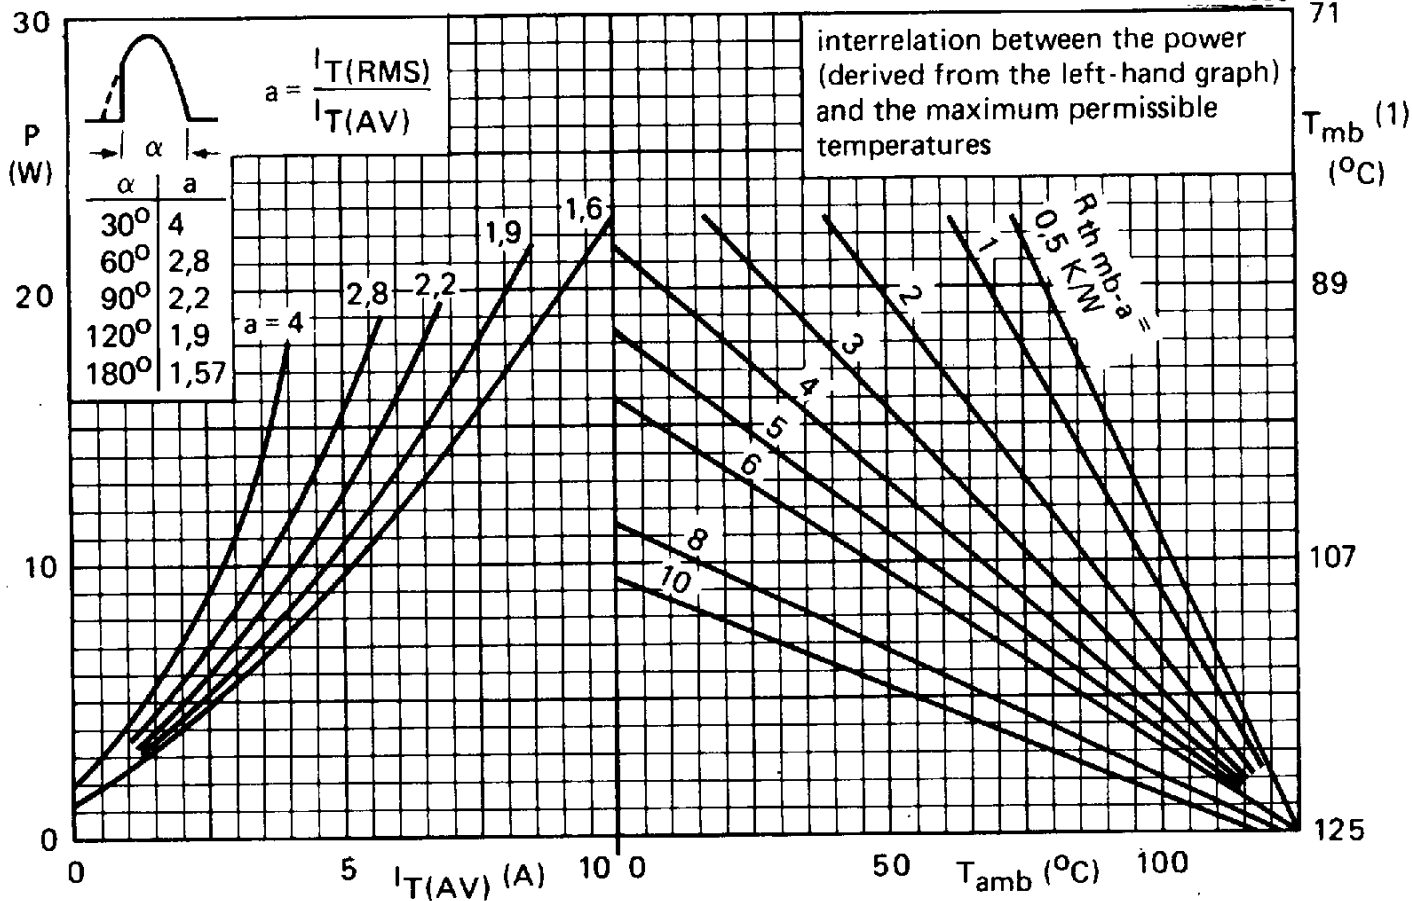

Fig. 3 (1) T_{mb} -scale is for comparison purposes only and is correct only for $R_{th\ mb-a} \leq 6\ KW$
*To ensure thermal stability: $R_{th j-a} < 4$ K/W (d.c. blocking) or < 8 K/W (a.c.). For smaller heat-sinks T_j max should be derated. For a.c. see Fig.3.